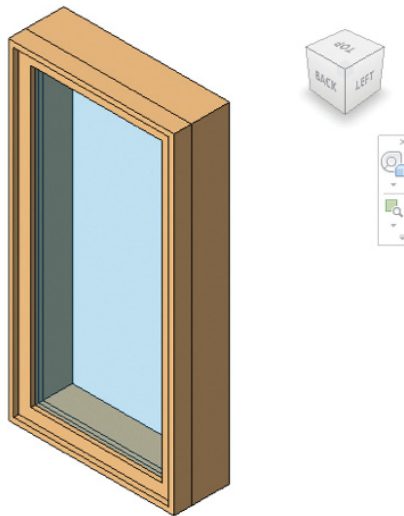

FIGURE 6.32 Window opened in the Family Editor
1. In this chapter's sample project, go to the Project Browser and expand Families and then Windows. Right-click Fixed, and select Edit from the context menu to open the family in the Family Editor (Figure 6.32).